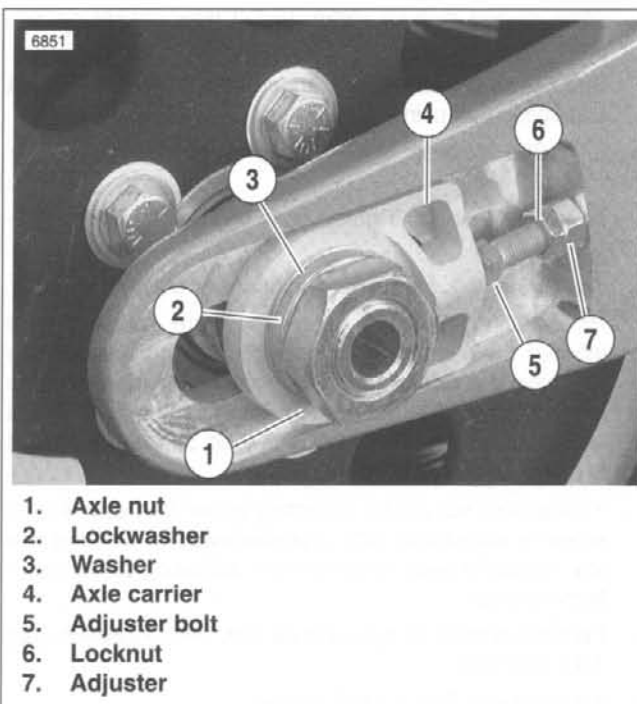
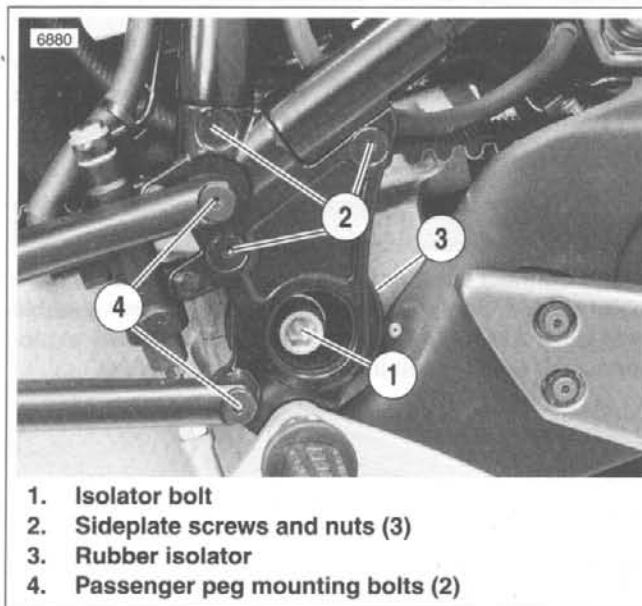

Figure 6-6. Rear Axle, Right Side
Figure 6-7. Sideplate
7. See Figure 6-6. Remove rear wheel.
- a. Remove rear axle nut (1) (metric), lockwasher (2), washer (3) and right side axle carrier (4).
- b. Hold axle adjuster bolt (5) with a 5/16 in. wrench. Loosen locknut (6) and axle adjusters (7). Repeat on left side.
8. See Figure 6-7. Loosen isolator bolt (1) until rubber isolator is able to be rotated. Do not remove bolt.
6. See Figure 6-7. Install sideplate and right side passenger peg mount.
- a. Tighten sideplate screws (2) to 19 ft-lbs (25.8 Nm).
- b. Tighten peg bolts (4) to 10-15 ft-lbs (13.6-20.3 Nm).